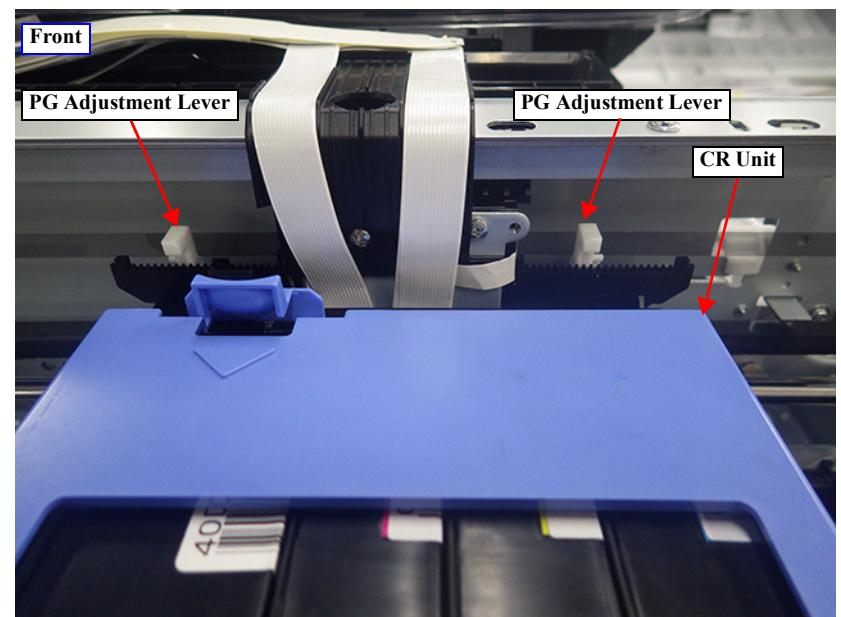

Figure 4-26. PG adjustment (3)
15. Refer to Figure 4-26, and move the two PG Adjustment Lever on both sides to adjust the PG.